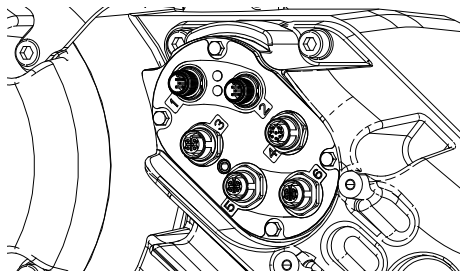

FIG. 49
- c. Loosen the cord grip (CG).
- d. Remove wires from Driver housing by pulling them through the cord grip (CG).
- e. Disconnect the cables connected to ports 1-6 on the side of the Driver (AB), shown in FIG. 49.